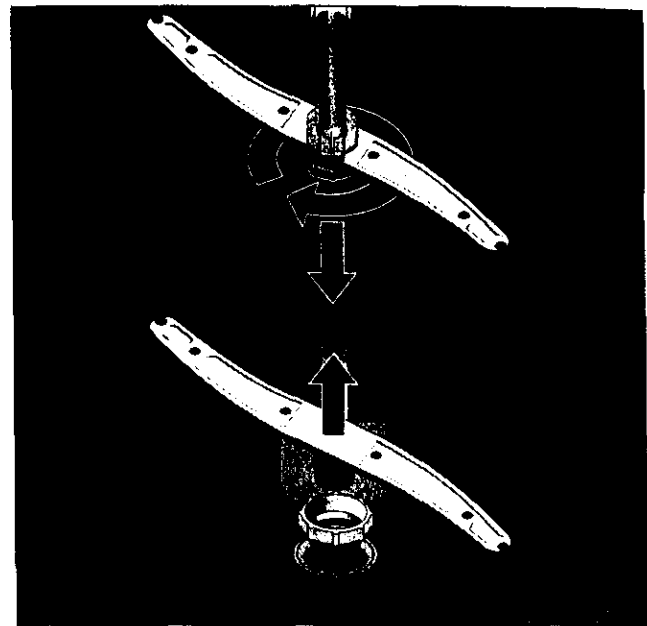

Figure 17.
- > The upper wash arm is held in position by a locking ring that can be released by turning it approximately $\frac{1}{8}$ turn. See figure 17.